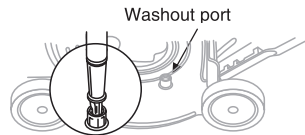

Fig.12
- Attach the garden hose to the washout port on the deck. (Fig.12)